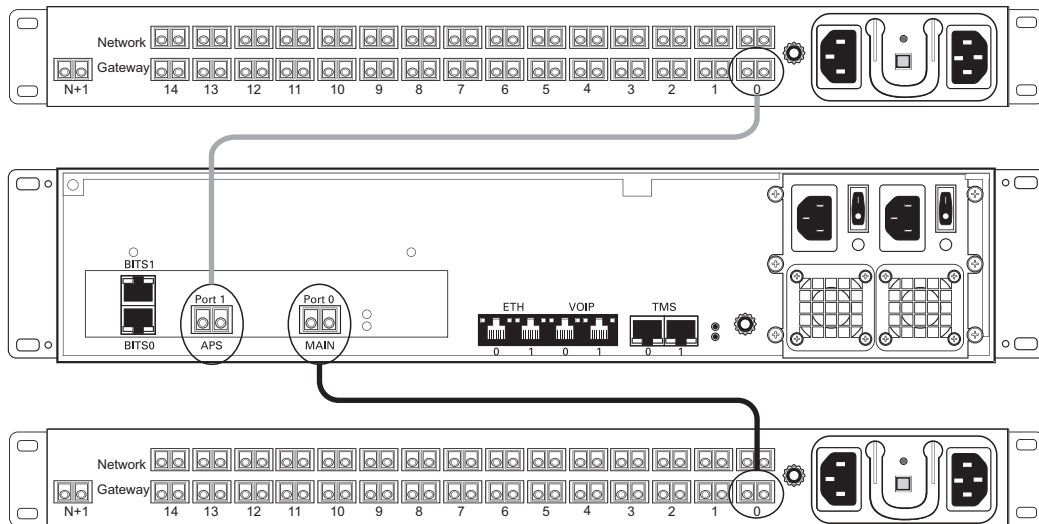

Figure 4.6 Optical Interface to the 7800 N+1 Patch Panel
1. Connect main fiber optic cables from each TMG7800-STM1 to a free port (0-14) on the Gateway side of a 7800 N+1 patch panel used for main connections. See figure 4.6 on page 35.
2. Connect APS fiber optic cables from each TMG7800-STM1 to a free matching port (0-14) on the Gateway side of a 7800 N+1 patch panel used for APS connections. See figure 4.6 on page 35.